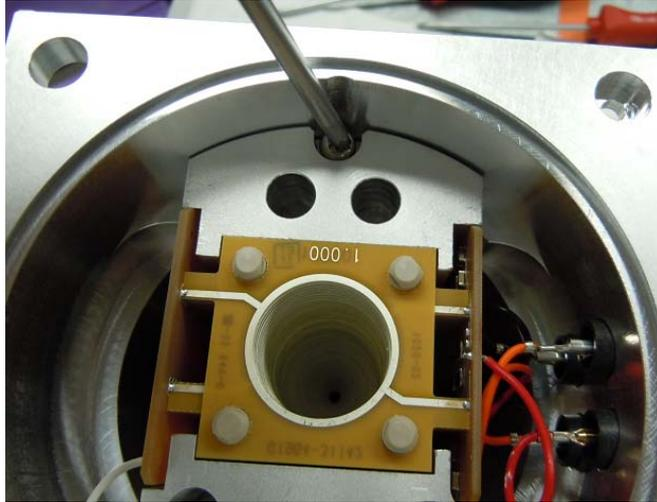

Figure 71 Loosening captive screw on the high pressure ion funnel.
- 5 Loosen the two captive screws that secure the ion funnel to the housing. See Figure 71.